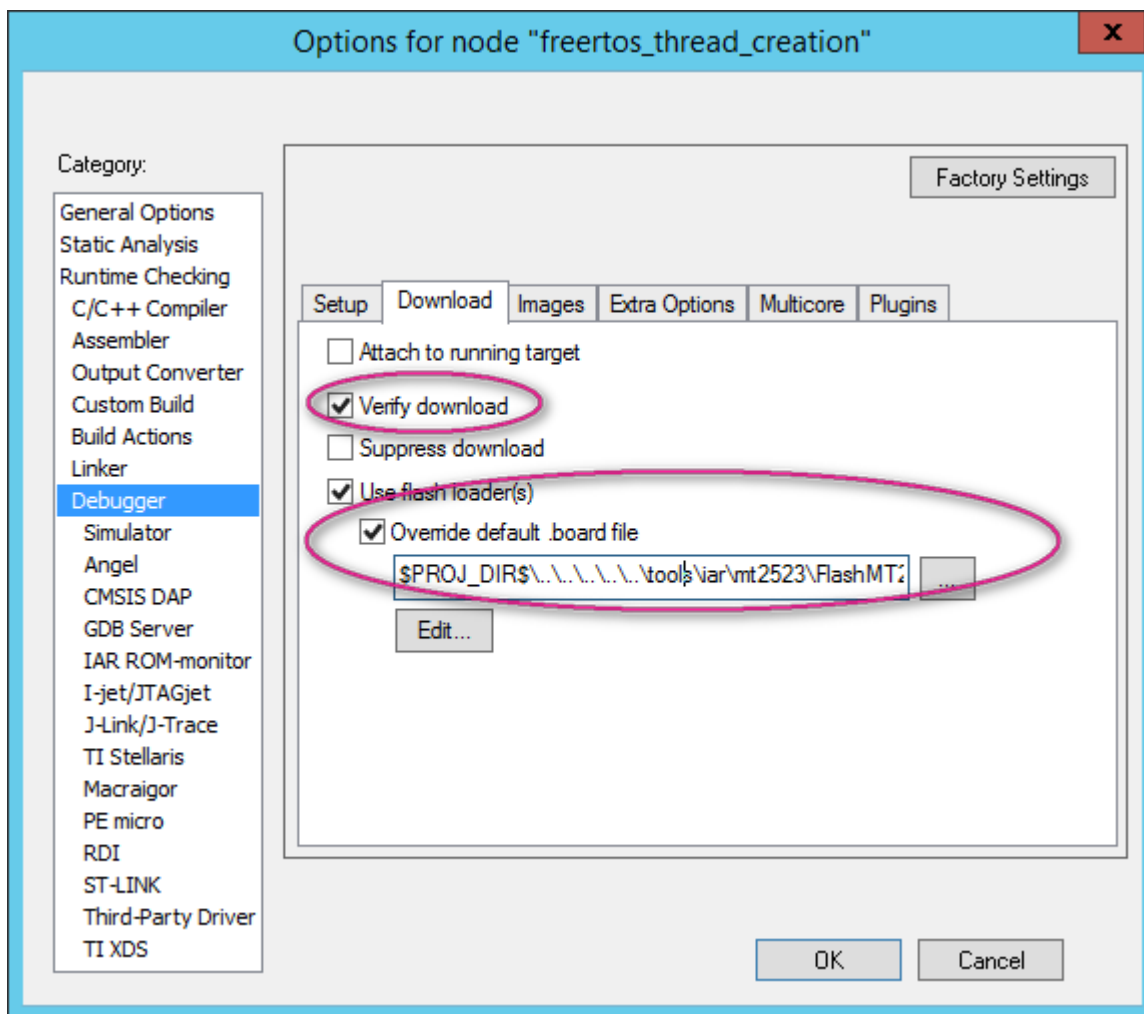

Figure 66. Configure the download settings
- 4) Navigate to the **Download** tab and configure the settings as shown in Figure 66).